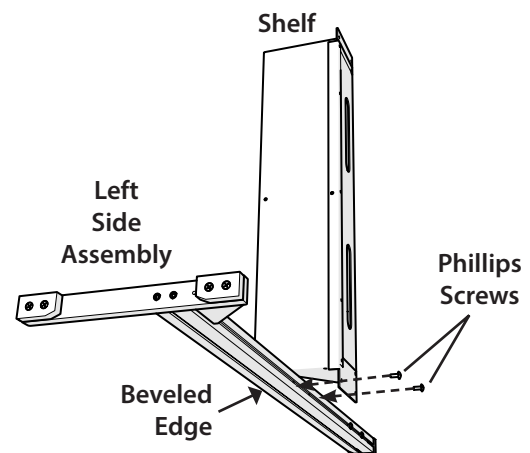

Figure 2: Installing the Shelf on the Side Assembly (Step 2)
2. Take one of the shelves and align the holes on the back of the shelf with the lower set of holes on the back of the left side assembly. Insert and slightly finger tighten the Phillips screws (Figure 2).